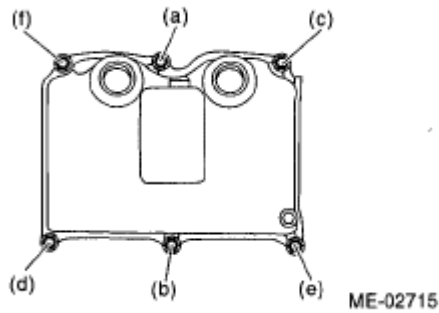
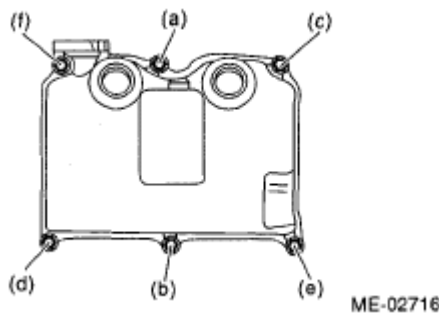

Fig. 104: Identifying Rocker Cover Gasket Bolts Alphabetical Sequence - RH Side
Fig. 105: Identifying Rocker Cover Gasket Bolts Alphabetical Sequence - LH Side
- Tighten the bolts in two stages in alphabetical sequence as shown in Fig. 104 and Fig. 105.